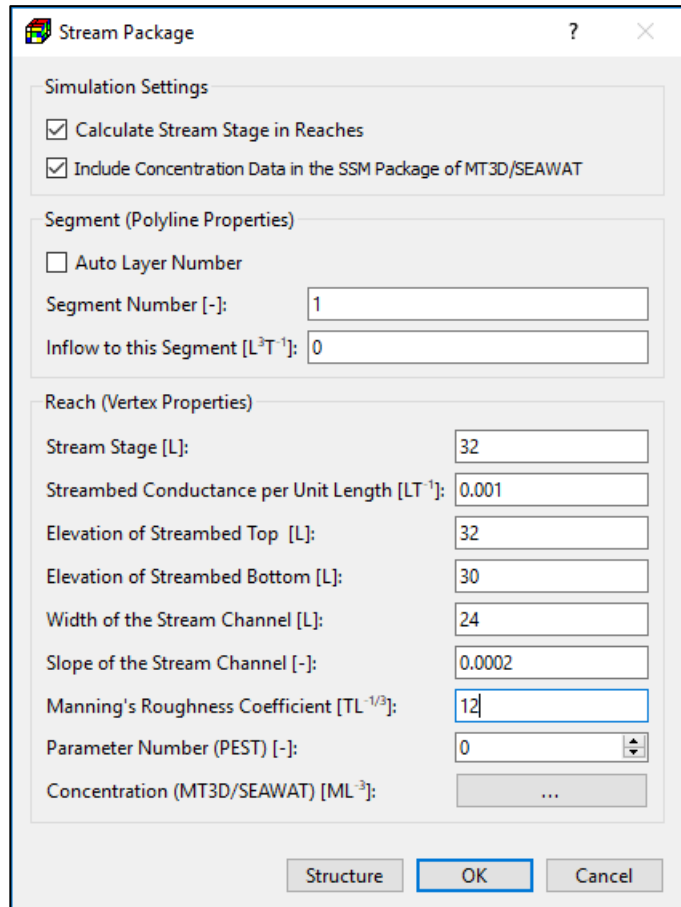

Figure 82. The Stream Package dialog box for specifying vertex properties
2. **Polyline input method:** Figure 82 shows the dialog box for specifying vertex/polyline properties. Once the vertex data are specified, they may be interpolated and applied to model cells following the rules described in Section 3.4.2.2.